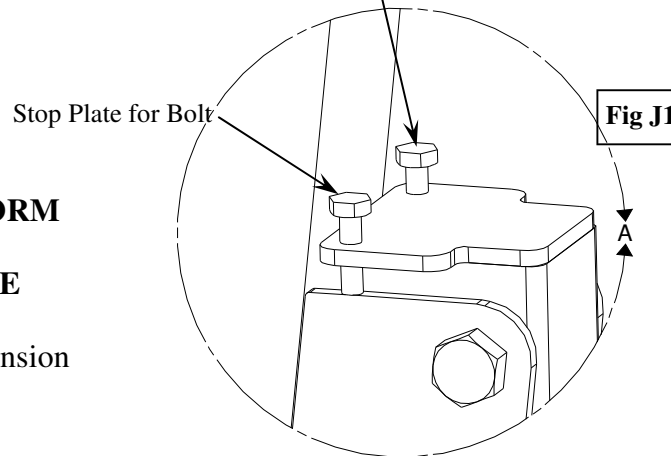

Fig J1
- Raise the Platform up until it is tight against the stop bolts. [see Fig J] Stop bolts must always be touching its stop plate when in the transport position. [see Fig J1] **Do not over tighten the stop bolts. Over tightening will cause damage to the Post.**